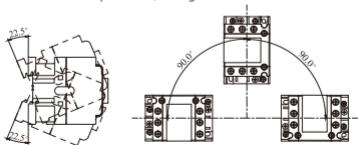

Fig.3 Installation requirements
- Product installation requirements, see Fig. 3